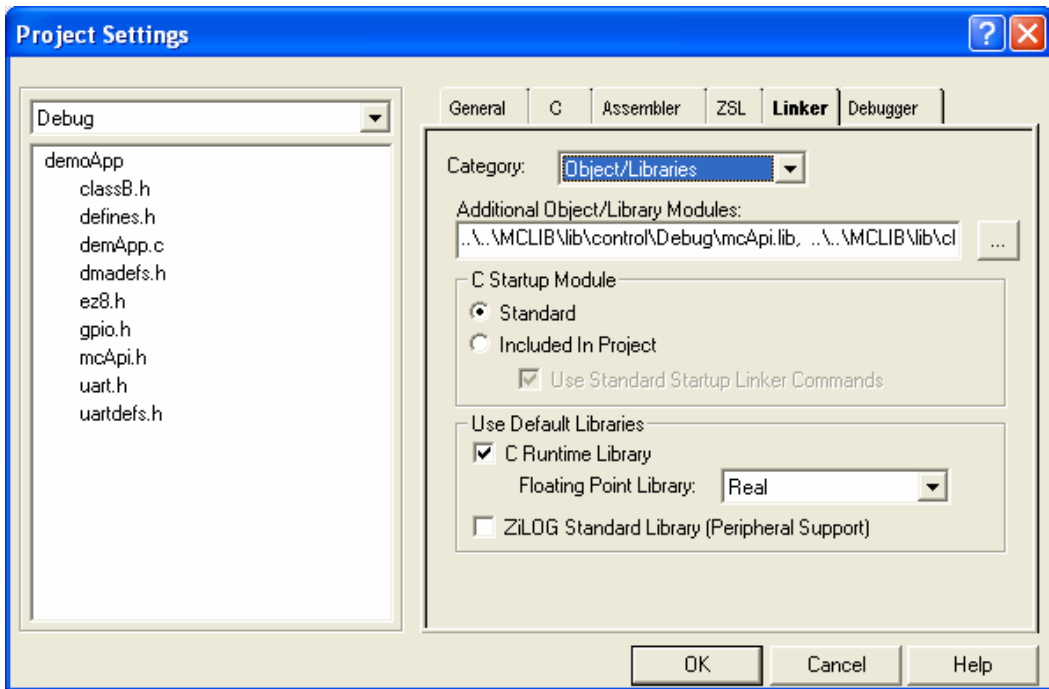

Figure 9. Linker Settings for Z8FMC16100 MCU in ZDS II
- 9) From the **Project** menu in ZDS II, select **Settings**. The **Project Settings** dialog box appears. Check for all the parameters (see Figure 8 and Figure 9) and do not change them. By default, ZDS II stores your files in the same directory as the project files:
Figure 9 illustrates the Linker Settings in **Project Settings** dialog box.
- 12) From the **Project** menu in ZDS II, select **Settings**. The **Project Settings** dialog box appears. Check for all the parameters (see Figure 8 and Figure 9) and do not change them. By default, ZDS II stores your files in the same directory as the project files: